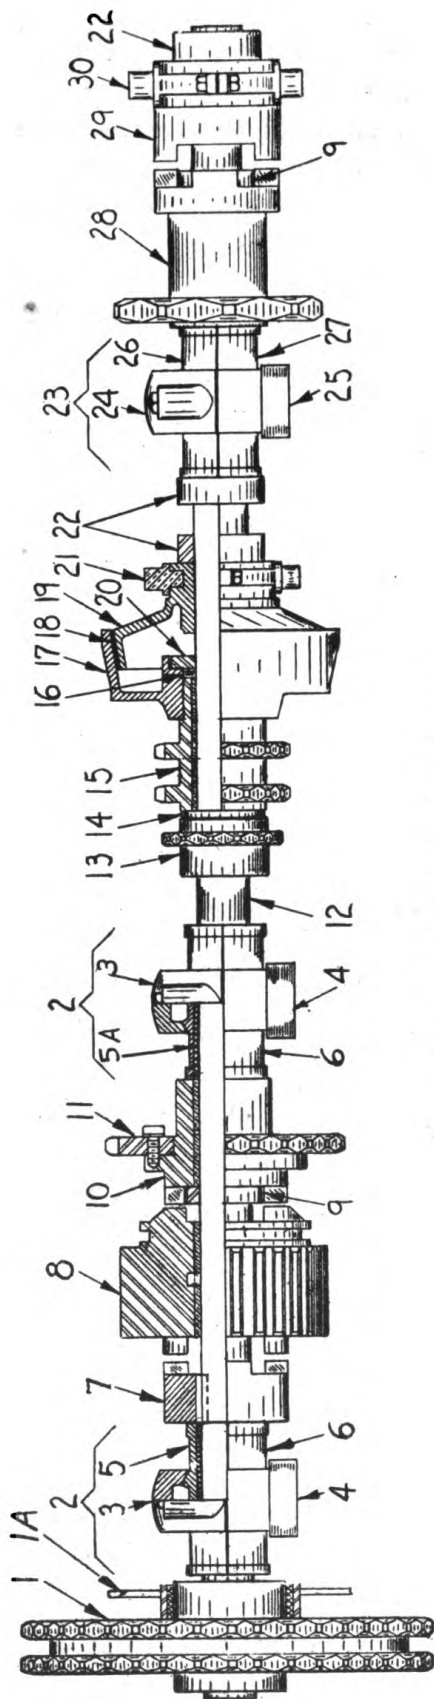
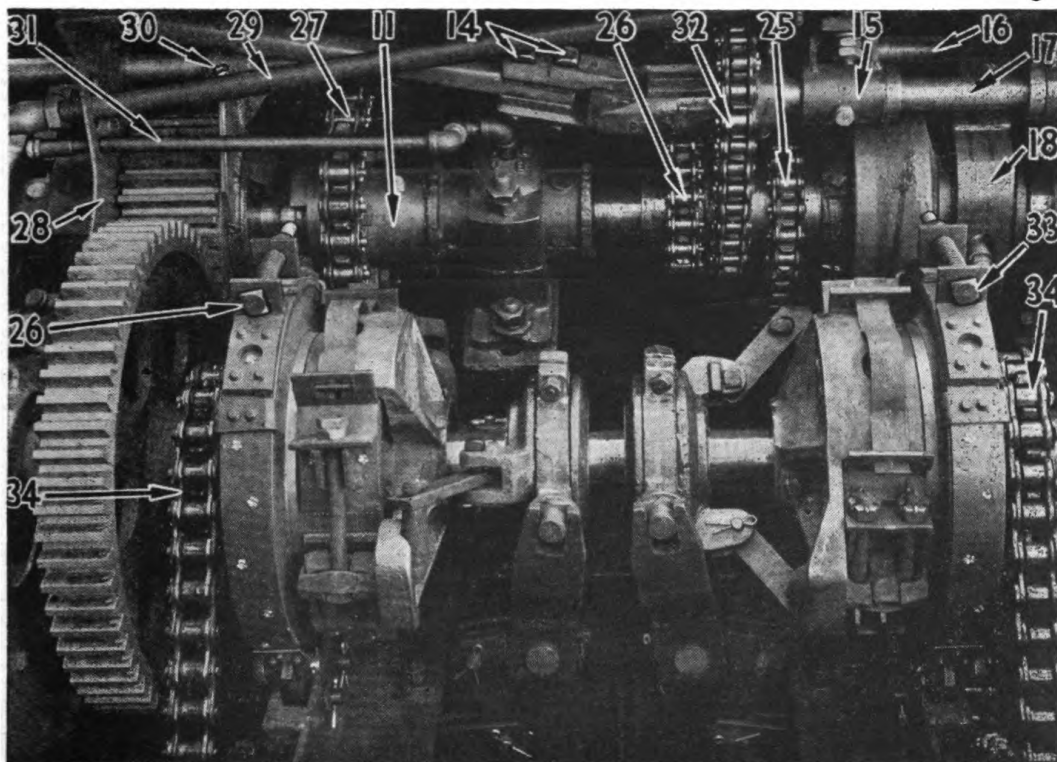
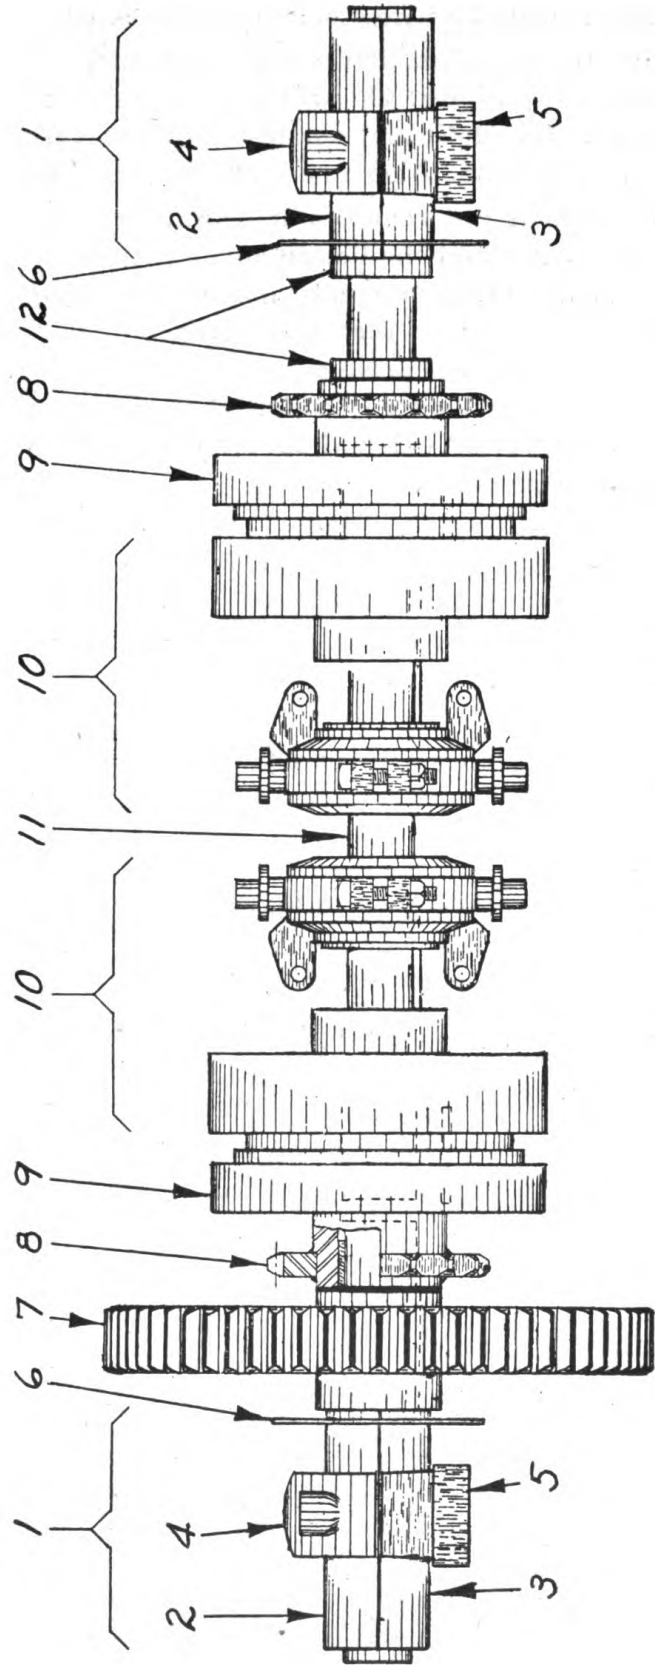

Figure 117. Main Jack Shaft.
Figure 118. Interior of tractor unit housing showing main jack shaft above and crawler clutch shaft below.
Figure 119. Crawler Clutch Shaft.
- (a) Remove transmission drive chain and guard (see above) and sprocket (1), Figure 117 which is keyed and set screwed to the end of the shaft and carries the plate (1A) to which the chain guard bolts. Also uncouple Bucket Line Drive Chain.
- (c) Strip the bucket line drive end of the shaft by removing clutch lever yoke (not shown), collar (22), Figure 117 jaw clutch (29), clutch collar (9) and sprocket (28) with clutch hub, in the order named.
- (d) Uncouple chain (32), Figure 118 which transmits manual power to hoist from hand wheel, take out bolts (14) to remove hoist hand wheel and shaft. Take out the two bolts in bearings (15) and cotter on inside end of shaft (16). Pull out shaft (16) and idler shaft (17) with bearings, and sprocket will be free.
- (e) Take out hoist clutch shifter (18) hoist lever link (29), sliding shifter (30), alemite piping (31), and bolted plates (28), on both sides.
- (f) Uncouple chains (27), (26) and (25), then take off bearing caps (3) and (24), Figure 117 and the main jackshaft is free for removal. In taking the shaft out it must be pulled up and to the side at the end opposite the operators side of the loader.
- (g) The remainder of the parts may now be stripped from the shaft. Bearings (2) and (23) will slide off each end, then collars (22), hoist clutch male half (19) with feather key, collar (20) inside hoist clutch, felt washer (16), female hoist clutch half (17) with double sprockets (15), and sprocket (13) which is keyed and set screwed to the shaft. Bearing (2) will now slide off the shaft, then jaw clutch hub (7) which is keyed and set screwed, sliding gear (8), collar (9) and sprocket (11) with clutch hub (10).
This shaft carries the two 8" Barber-Greene friction clutches (10), Figure 119 which control power to the loader crawlers. This shaft may be taken out of the machine independent of any of the operations required for removal of the main jackshaft, other than taking off the cover bolted in place above it. The steps outlined below should be followed for the removal and stripping of this shaft:
- (a) Release crawler clutches and take out adjusting bolts (33), Figure 118 on the brake bands so they may be laid back out of the way. Now uncouple crawler intermediate chains (34) and remove the bearing caps. It is not necessary to remove side plates (28), as for the main jackshaft since there are separate patch plates (6), Figure 119 provided over each bearing (1) on this shaft. With these plates taken off, the shaft assembly is free to be lifted out of the housing.
- (b) To strip the shaft completely, slide off bearings (2), with patch plates (6), then gear (7) which is keyed and set screwed to the shaft, and collars (12) should be removed. Clutch hubs with sprocket (9) will now slide off the shaft. Clutch assemblies (10) are keyed and set screwed to the shaft and will slide off as a unit with clutch bands and shifter yoke.
NOTE: In mounting this shaft back into position be careful to get the gear (7), Figure 119 in proper mesh with gear (8), Figure 117 on the main jackshaft. Run a sheet of paper between the gears to check the setting. The gear teeth should make a sharp imprint upon the paper, without cutting it, the imprints should be uniform across the teeth, and the marks at the ends of the teeth should be in a straight line.
Shim under Main Jackshaft bearings (4) and (25), Figure 117, to tighten chain (25), Figure 118.
Tighten chain (32) at the same time by drawing up bolts in bearings (15) on shaft (17), Figure 118.